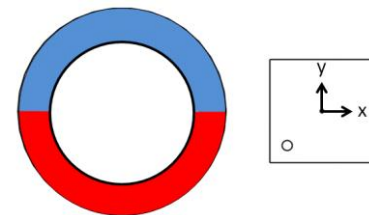

Figure 27: Package Top View with X- and Y-Axes
Next, plot the error curve (the output minus the real mechanical position vs. the real mechanical position) and extract two parameters: the maximum error (E), and the position of the maximum with respect to a zero crossing (a_M) (see Figure 27). The k ratio can be calculated with Equation (5):
The dot marked on the package indicates whether the radial field is aligned with the sensor coordinate X or Y (see Figure 27).
For example, Figure 27 on page 20 shows that the field along the sensor’s Y direction is tangential and weaker. This means that the X-axis should be reduced (ETX = 1 and ETY = 0).